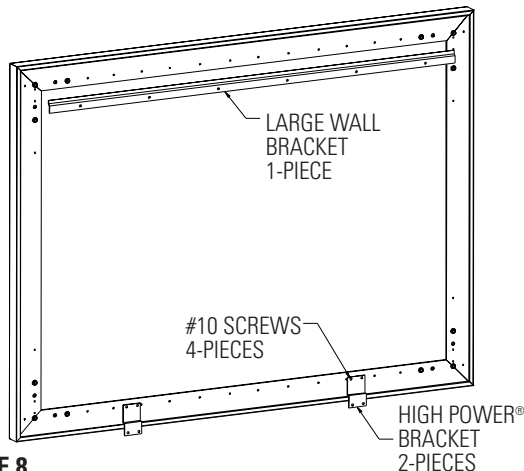

FIGURE 8
1. Secure the large wall bracket to wall studs at the desired height. Make sure the bracket is level. The top of the frame will be 1/8" above the top of the wall bracket when mounted. You will need at least 5/8" clearance above the bracket to hang the screen. See Figure 8.
2. Attach two High Power® brackets to the bottom frame rail as shown in Figure 8. use the black #10 screws supplied.